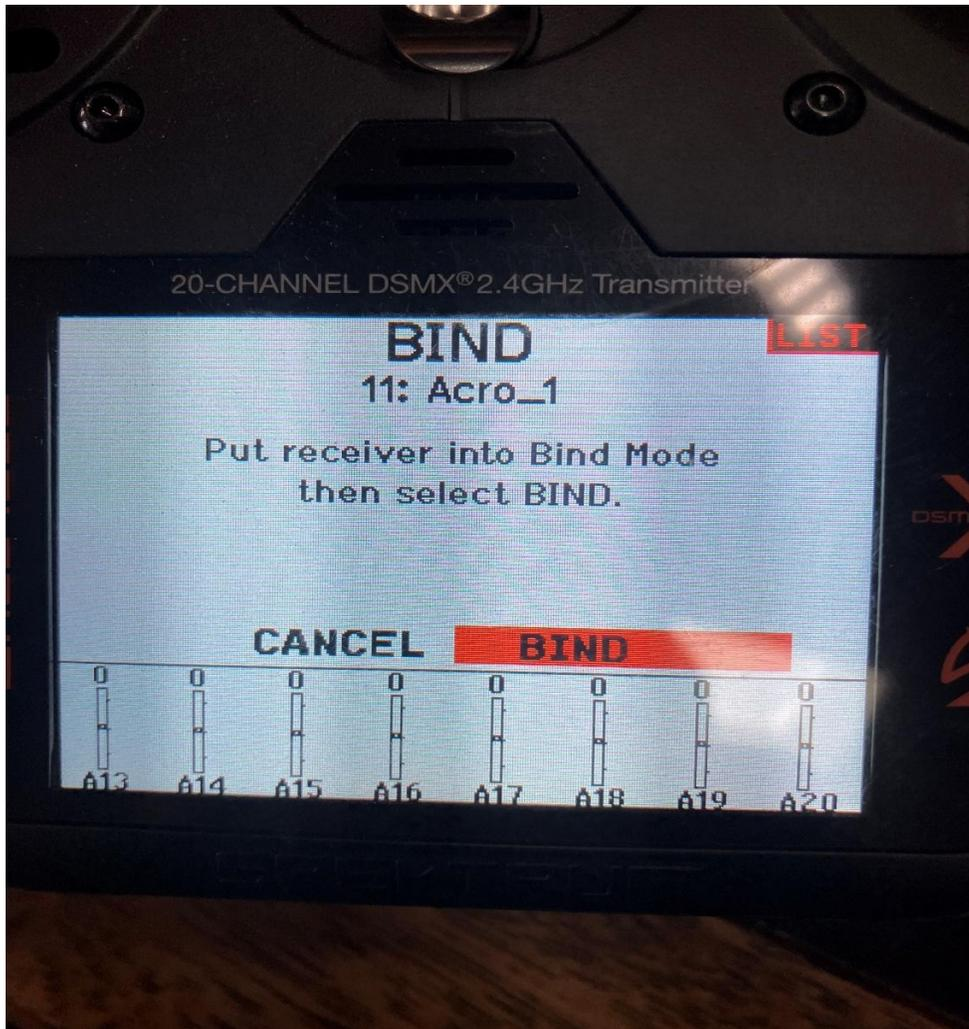

Figure 9.0 Binding Screen
2. Then navigate to the **Function List** on the transmitter and scroll down to the **Bind** option and click it. On the **BIND** screen highlight **BIND** and click it. Wait for a few seconds and the receivers led should stop blinking and be turned on in a steady state. This indicates the binding process was successful. You are ready to move on. *Figure 9.0* shows the screen for binding.